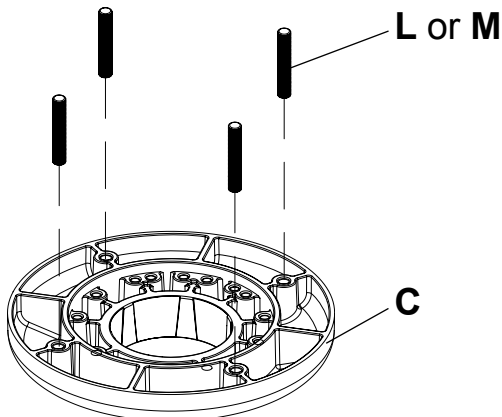

fig. 2.1
- 2 If the desk thickness is 3/4" use 1/4-20 x 1.5" threaded rods (L). If the desk thickness is between 3/4" to 2-1/4" use 1/4-20 x 3" threaded rods (M). Turn base (C) upside down and insert four threaded rods (L or M) into base (C), as shown in figure 2.1.